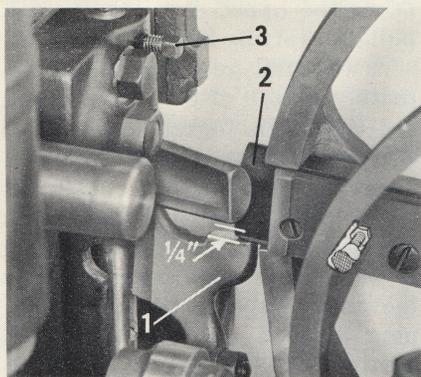

Fig. 4
4) Figure 4 shows the adjustment of the upper stopping lever